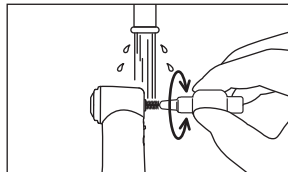

Fig. 21
- 2) Clean inside the bur/drill insertion hole for 15 seconds or more under running water, using an interdental brush (wire thickness 0.7mm) that conforms to size 4 in ISO 16409. (Fig. 21) (Water condition: $\leq 38^{\circ}\text{C}$, $\geq 3.5\text{L/min}$; water should be of the same quality as drinking water)